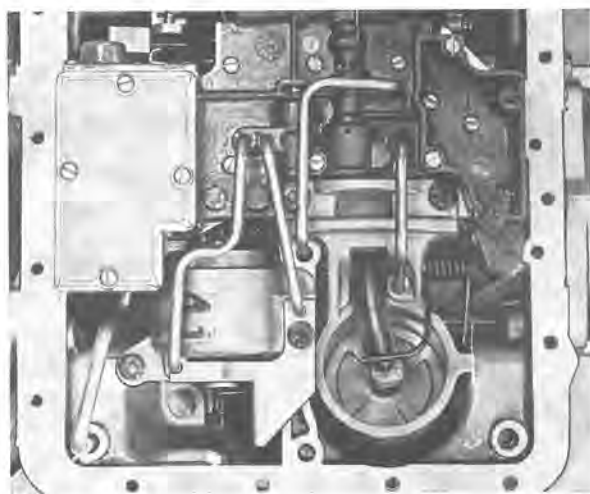
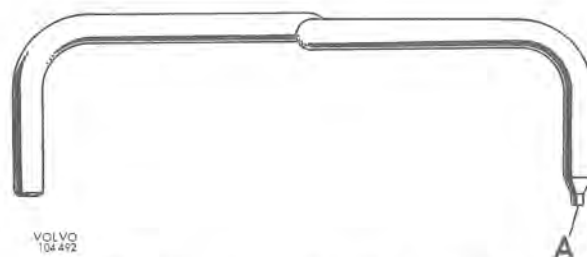

Fig. 4-119. Retention of front and rear pump strainers
Fig. 4-120. Oil tube for valve bodies system, vehicle with B 30 E and F engines
28. Fit the four oil tubes according to Fig. 4-119. Note that the oil tube for releasing the front control cylinder has a constriction (A, Fig. 4-120) on vehicles with B 30 E and B 30 F engine. This end is fitted in the valve bodies system.